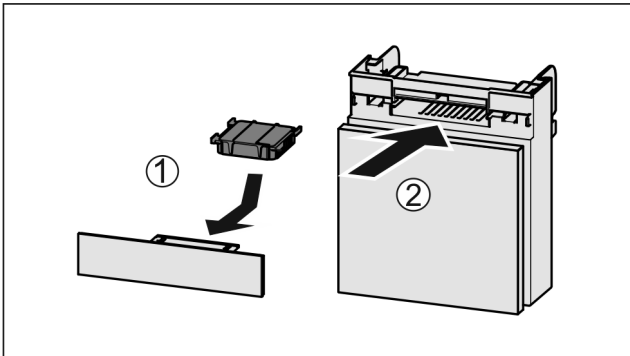

Fig. 60
- ▶ Insert the carbon filter as shown in the diagram Fig. 60 (1).
- ▶ Push the compartment in Fig. 60 (2).